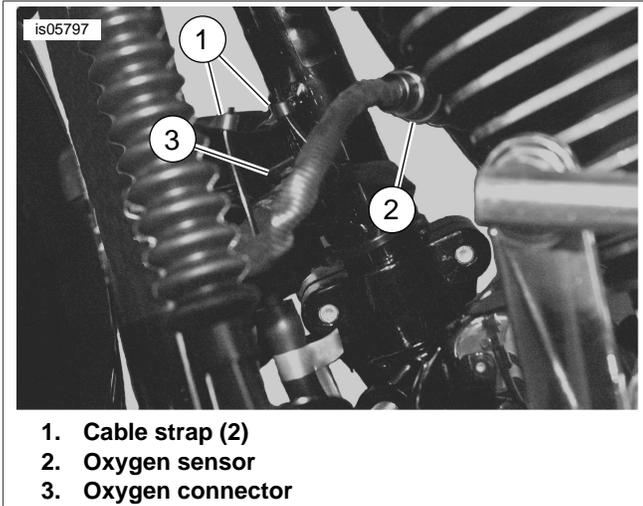

Figure 15. Secure Oxygen Sensor Connector
1. See Figure 15. Install two cable straps (1) between the brake reservoir and frame bracket to secure front oxygen sensor connector (3) to the back of the frame bracket.